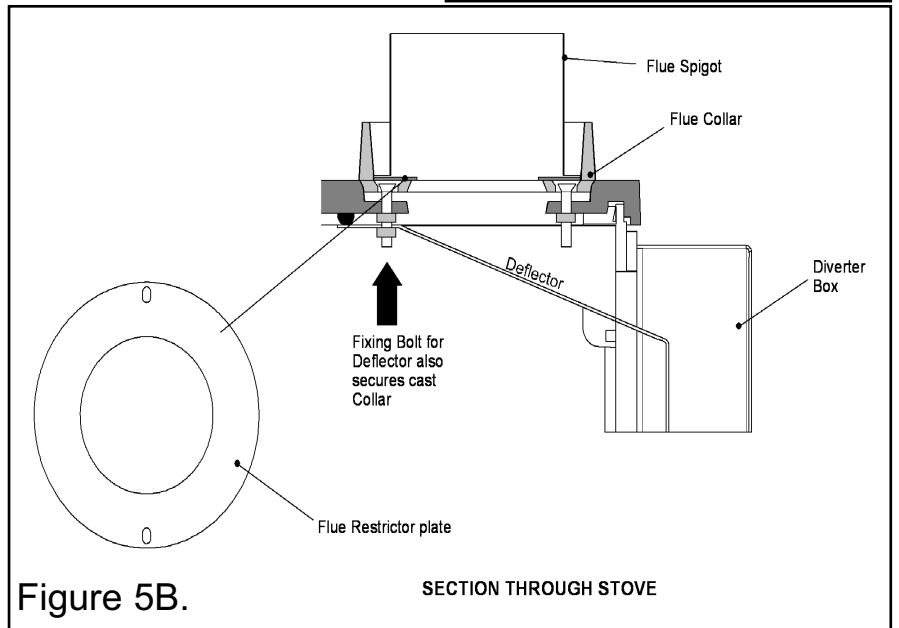

Figure 5B.
- The flue restrictor is for use where the flue draught is excessive. The flue spigot is screwed to the cast flue collar and clamps the flue restrictor plate in place (See figure 5B).